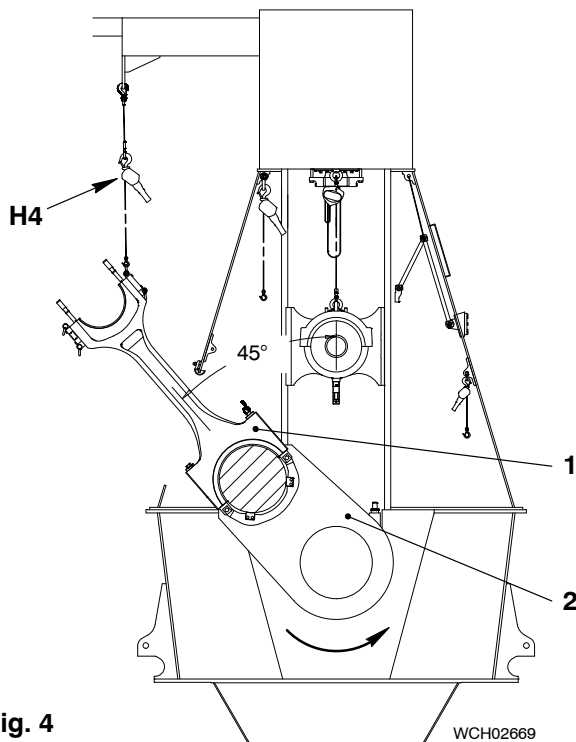

Fig. 4
- 13) Operate the turning gear and manual ratchet (H4) to move the crankshaft (2, Fig. 4) and the connecting rod (1) to the position as shown.